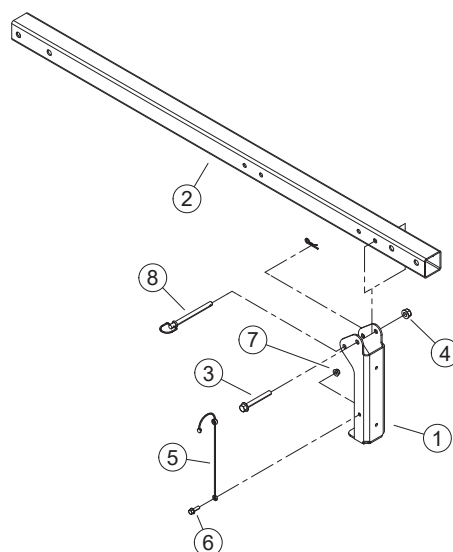

Figure 2.4, Hitch
4. Attach the jack stand (1) to the hitch pole (2), as shown in Figure 2.4, using 3/8" × 3" bolt (3) and nylock nut (4). Attach the nylon lanyard (5) to the jack stand (1) using 1/4" × 3/4" bolt (6) and 1/4" nylock nut (7). Swing jack stand (1) up into the stored position and secure by using the hitch pin (8) and cotter pin.
5. Place hitch pole channel (9) in position underneath trailer deck and mount to trailer deck using two 3/8" × 1" bolts (10) and 3/8-16 nylock nuts (4).
6. Now, insert hitch pole assembly into the mounted hitch pole channel (9) making sure the end of the hitch pole reaches the axle. Temporarily secure the hitch pole assembly in place using two 3/8" × 3-1/4" bolts (11), four 3/8 washers (12) and two 3/8-16 nylock nuts (4) through the aligned mounting holes of the hitch pole channel (9) and the hitch pole. **(Do not tighten hardware securely until step 7 is complete.)**
7. Place hitch plates (13) over the axle and secure to the hitch pole using two 1/2" × 3-1/4" bolts (14), four 1/2" flat washers (15) and two 1/2-13 nylock nuts (16).
8. Attach safety chains (17) to the third hole from the coupler end of the hitch pole using a 3/8" × 3-1/2" bolt (18), two 3/8" washers (19) and 3/8-16 nylock nut (4).
9. Mount the 50mm coupler (20) to the hitch pole using two 1/2" × 3-1/4" bolts (14), 1/2 flat washers (15), and centerlock nuts (21).
10. Apply reflectors (22) to the hitch pole assembly as shown.